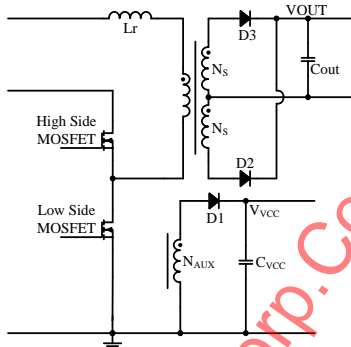

Fig.4 OLP Principle of SY59515
**OLP:** Output voltage is reflected by auxiliary winding of LLC transformer,  $V_{VCC}$  is proportional to output voltage. When the load is null, secondary side current of LLC transformer will charge output E-cap continuously and  $V_{VCC}$  will increase. Once  $V_{VCC}$  reaches  $V_{VCC\_OVP}$ , SY59515 will enter fault state and system will restart later. So the turns of auxiliary winding  $N_{AUX}$  and secondary winding  $N_S$  will influence the output voltage  $V_{O\_OLP}$  in OLP situation,  $V_D$  is the voltage drop of rectifier diode, as shown in Fig.4.